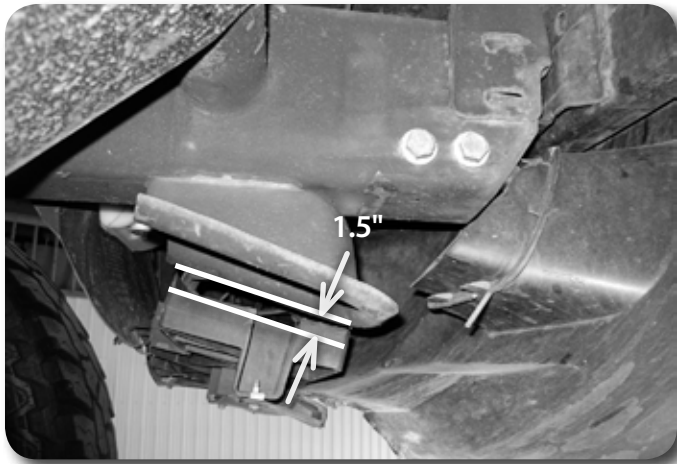

Figure 3
8. Note where the plastic bumper valence support is located below frame alignment hooks. Measure down 1.5" and mark. Figure 3. This will need to be trimmed once the bumper cover is removed.